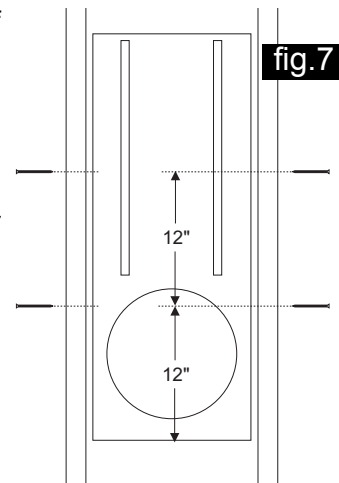

fig.7
5. Decide how high you are going to mount the iWS from the floor. Make sure to leave room for the bezel to clear any baseboard that may be applied over the drywall. Higher up is safer from this standpoint. Once you have determined the vertical location of the iWS, measure 12" up from the bottom of the iWS. (Fig. 7) Make a mark on the 2 x 4 centerline at this location. Repeat for the other 2 x 4. Repeat for both 2 x 4s at a height of 24" from the bottom of the iWS. Drill a 3/8" hole through the 2 x 4s at each of the four marked locations. Try to keep the drill square to the surface of the 2 x 4.